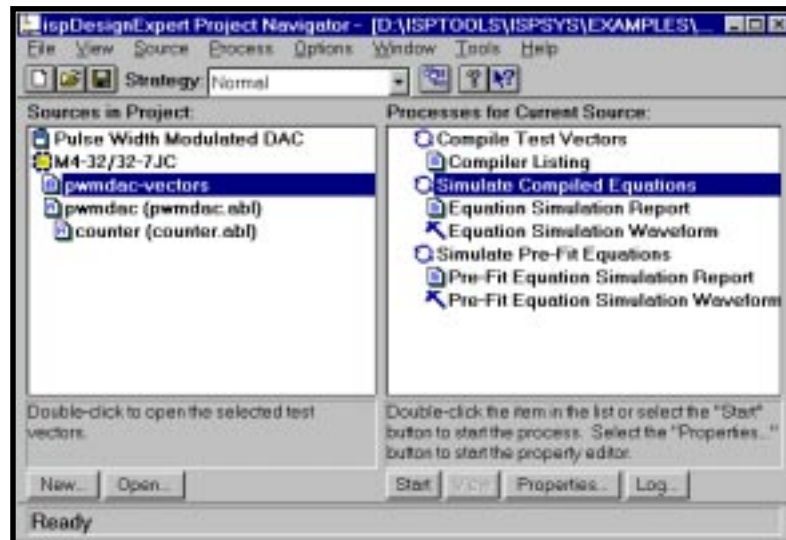

Figure 5-7. Running the Equation Simulator
1. Select the ABEL-HDL test vector file (.abv) of a MACH or PAL design from the Sources in Project window in the ispDesignExpert Project Navigator (Figure 5-7).